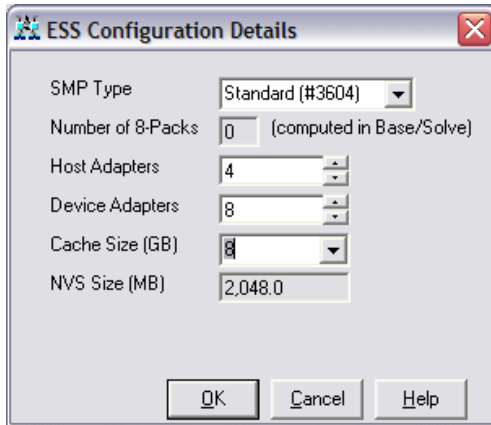

Figure 4-73 Hardware details for the existing ESS 800
- b. The ESS Configuration Details window (Figure 4-73 on page 155) opens. Replace the default values with the correct values for the existing ESS. In our example, we use four FC adapters and 8 GB of cache, so we do not change the default values. Click **OK**.